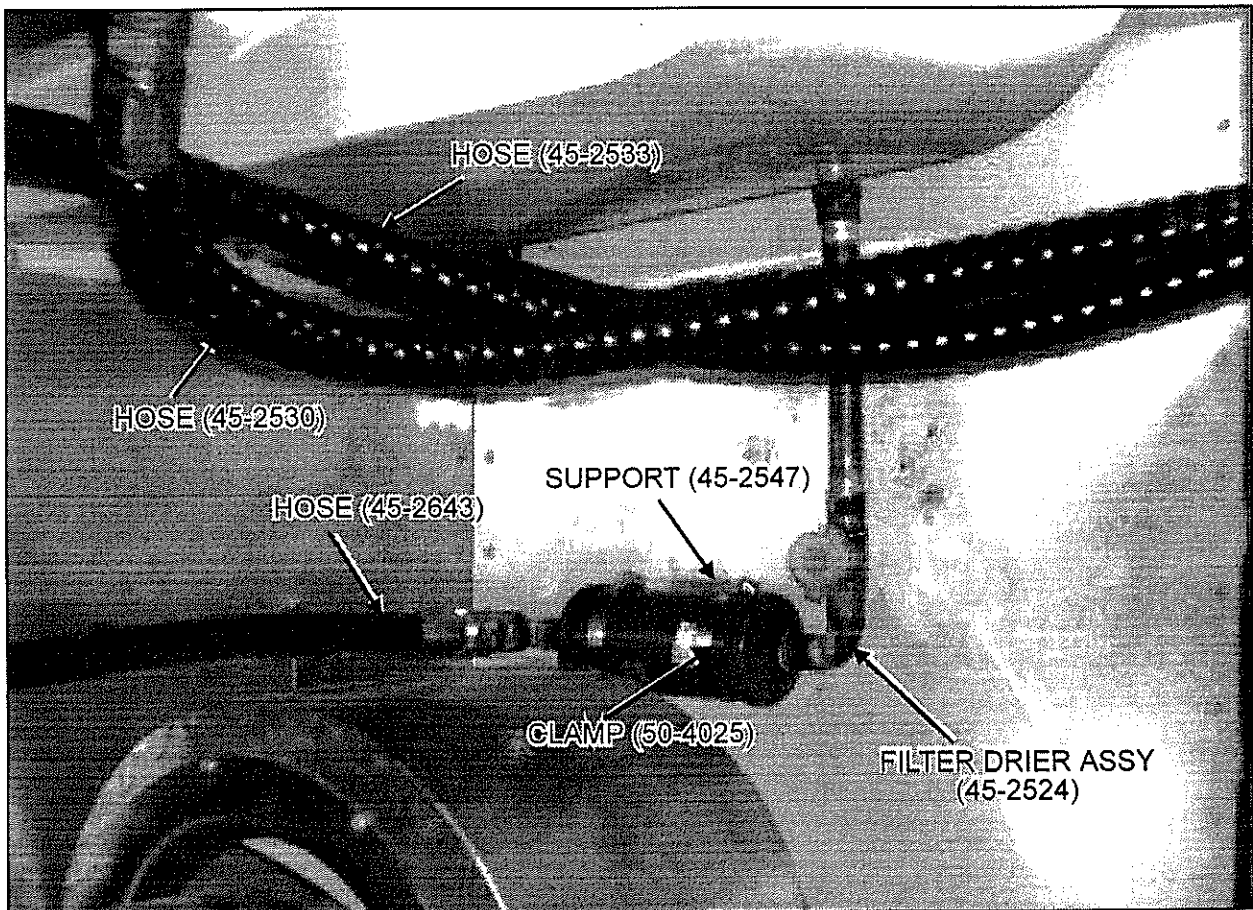

Fig. 6 - Modification in condenser compartment
8. Position filter drier assembly (#45-2524), then secure filter drier bottle to support using two hose clamps (#50-4025) (refer to figure 6). Do not connect hoses.